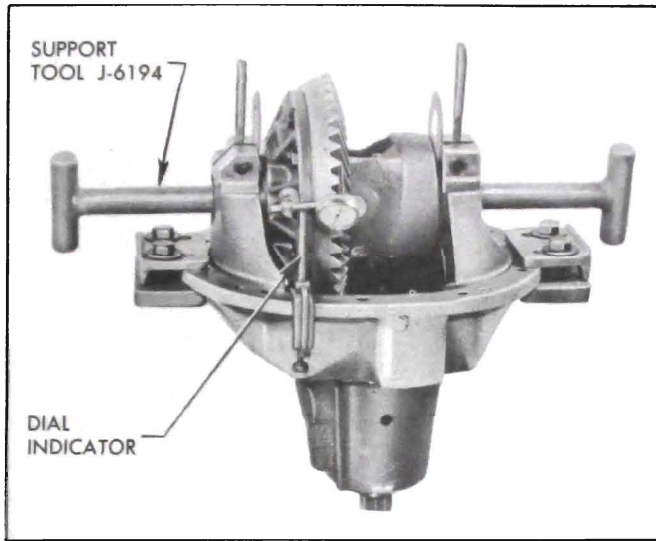

Figure 6-32—Positioning Differential for Correct Backlash
2. Place case assembly and differential bearings in position in carrier. If same bearings are used, replace in original positions. Insert Support Tools J-6194 through the pedestal bores into the bearing inner races. Press tools toward each other to seat them, using hand pressure. If support tools are loose, install pedestal clamp bolts and nuts and tighten lightly until support tools can just be moved by twisting them. If support tools are too tight, loosen them as necessary by slightly wedging pedestals open with chisels. See figure 6-32.